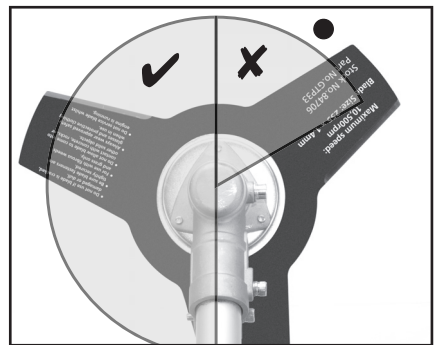

FIG. 34
14.2 USING THE BRUSH CUTTER - FIG.34
The most effective area of the cutting head is shown in Fig. 34.